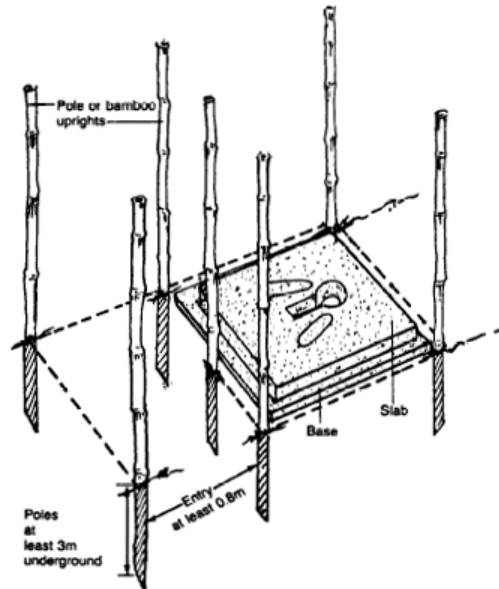

Figure 9a. Cornerposts for Screen Shelter
3. Set corner posts firmly in the ground in a vertical position around the privy slab to a depth of .3 to .6m as shown in figure 9a. Thoroughly tamp the ground after the posts are in place.
4. Build or weave together the screening material and secure it to the corner posts with vine, wire, or equivalent. Begin at the end corner and be as high as the tops of the corner posts as shown in figure 9a.